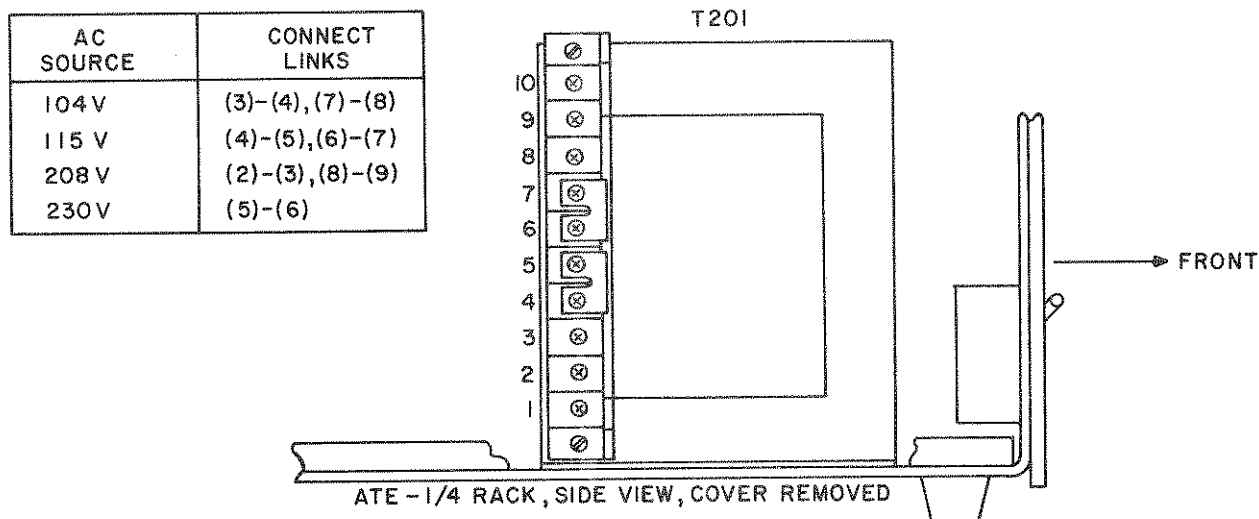

FIG. 2-4 A-C INPUT SOURCE VOLTAGE SELECTION, ATE 1/4 RACK GROUP.
- 2-5 This power supply is normally supplied for operation on a single phase, nominal 115V a-c line. For conversion to other a-c source voltages, refer to FIG. 2-4. Select your nominal source voltage and change the links on the barrier strip of T201 according to the table provided in FIG. 2-4. The circuit breaker (CB101) remains equally effective at all input voltages.